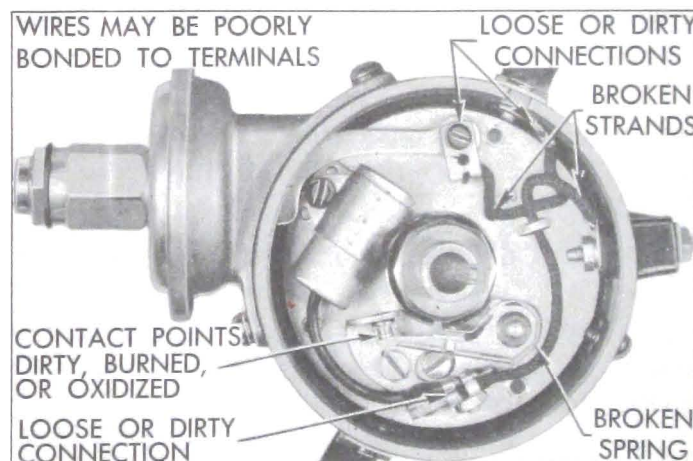

Figure 10-51—Points of Resistance in Primary Circuit of Distributor
1. Check contact point and condenser connector leads and breaker plate ground lead for loose or broken connections. Inspect for broken connections. Inspect for broken breaker arm spring and loose or broken rubbing block. See figure 10-51.